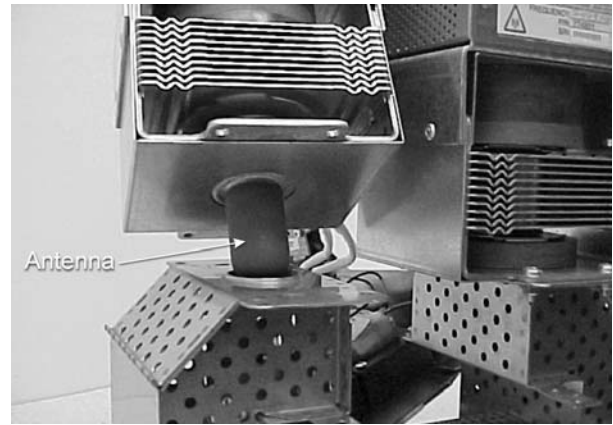

Figure 4-20 Installing the Magnetron
1. See Figure 4-20. Inspect the gasket around the antenna of the new magnetron, making sure it is smooth and free of debris.